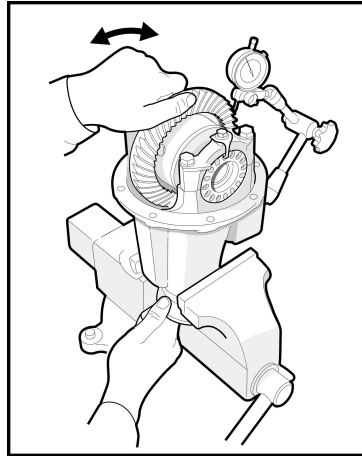
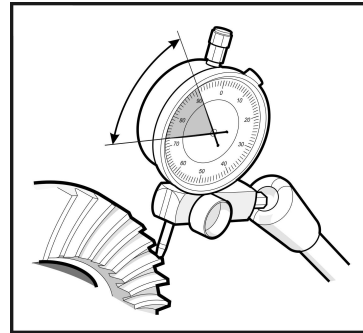

Fig. 4
Fig. 5
1.9 Hold the driveshaft flange to prevent the pinion from rotating. Rotate the ring gear back and forth until it stops in each direction, and observe the dial indicator reading (Fig. 4, Fig. 5). Record the measured value in the appropriate row of the table (Value 1). For improved accuracy, repeat the measurement two additional times. Before each measurement, rotate the differential approximately 120°. Record the readings in the table (Values 2 and 3), then calculate the arithmetic mean of the three measurements.